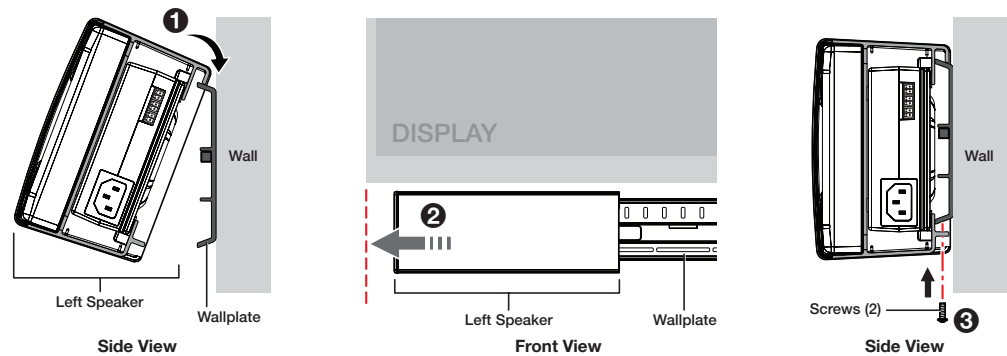

Figure 11. Attaching the Left Speaker to the Wallplate
1. Hook the top clasp edge of the left speaker assembly over the top rail ❶ in figure 11 of the wallplate and slide it to left end of the wallplate ❷ so that the left end of the speaker assembly is aligned with the left end of the display.